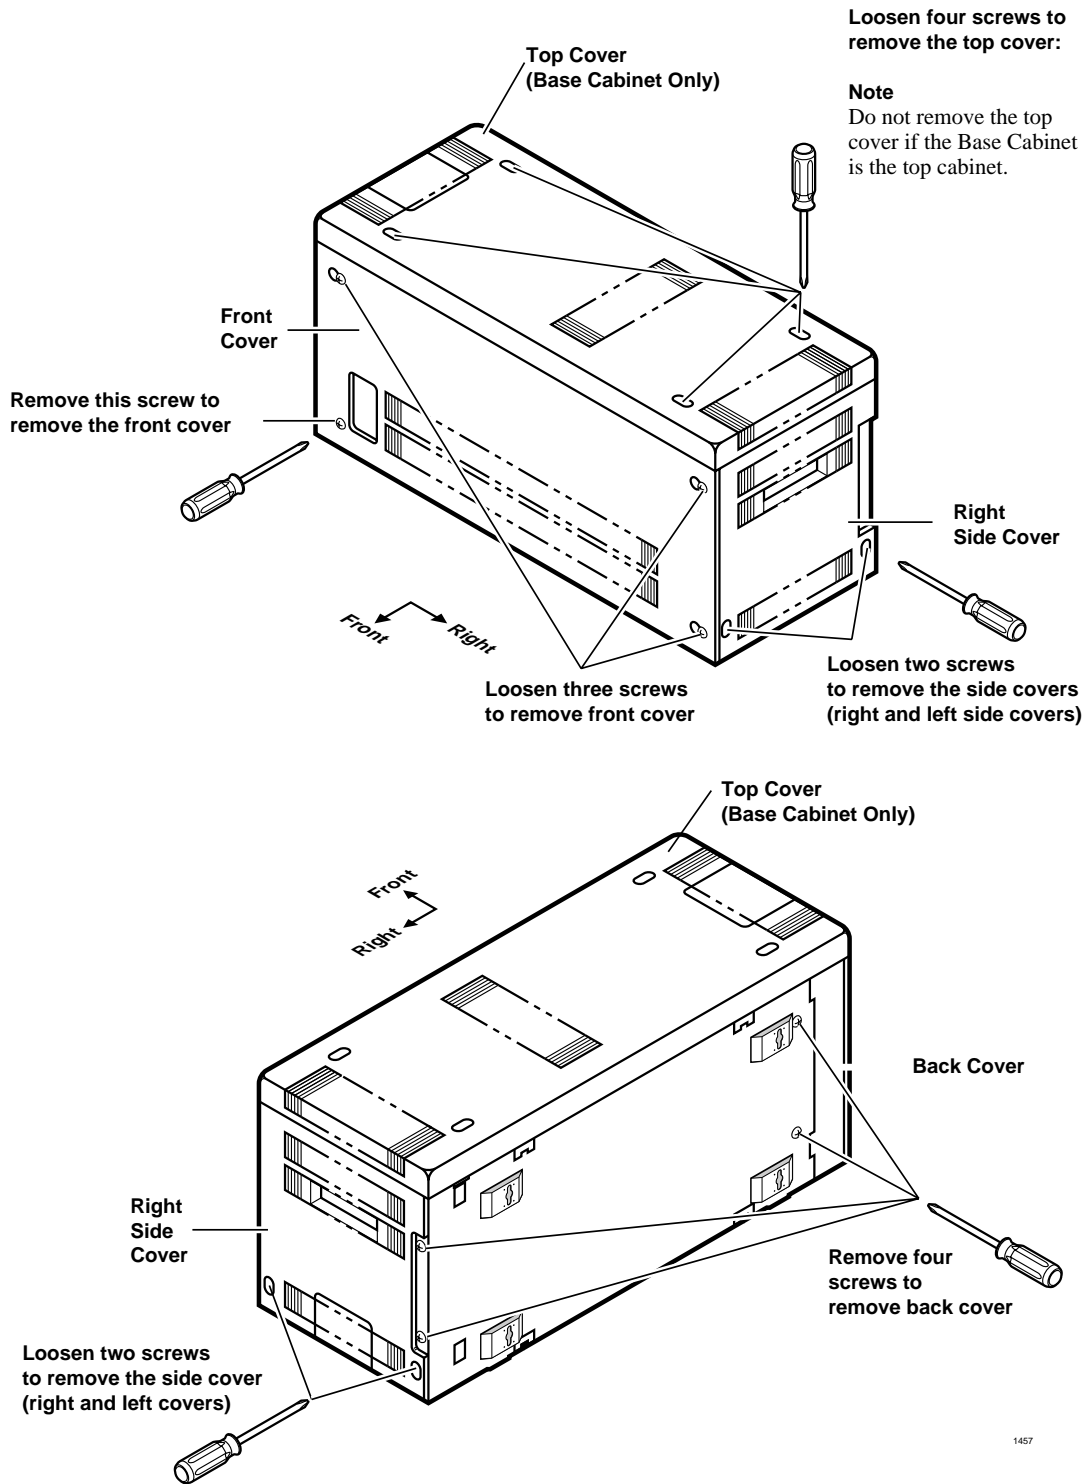

Figure 5-6 DK424 Cabinet Cover Removal and Installation
2. Remove the front, back, and side covers from the Base Cabinet (see Figure 5-6).
1. Remove front, side, and top covers from cabinet(s) (Figure 5-2). Remove plastic locating parts from all cabinet back covers using a Phillips screwdriver (Figure 5-6).